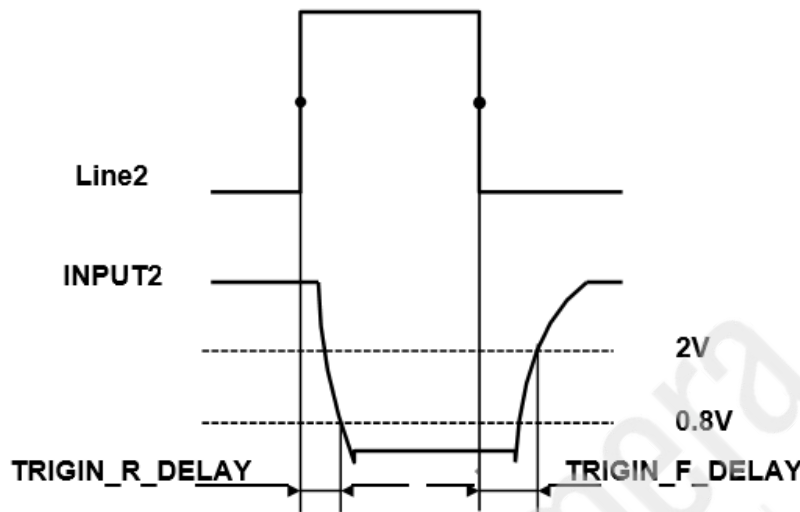

Figure 7-11 Parameter of Line2 input circuit
- Input rising time delay: $<2\mu\text{s}$ ($0^\circ\text{C}\sim 45^\circ\text{C}$), parameter description as shown in Figure 7-11.
- Input falling time delay: $<2\mu\text{s}$ ($0^\circ\text{C}\sim 45^\circ\text{C}$), parameter description as shown in Figure 7-11.